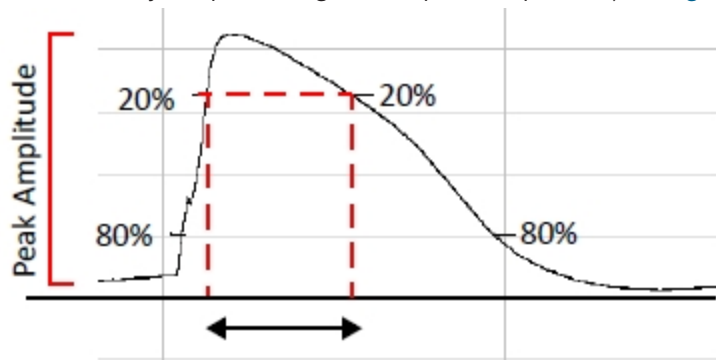

Figure 3-3: Event duration at 20%.
- Event Duration:** The time difference between the beginning and the end of the response determined by the percentage of the peak amplitude (see Figure 3-3).